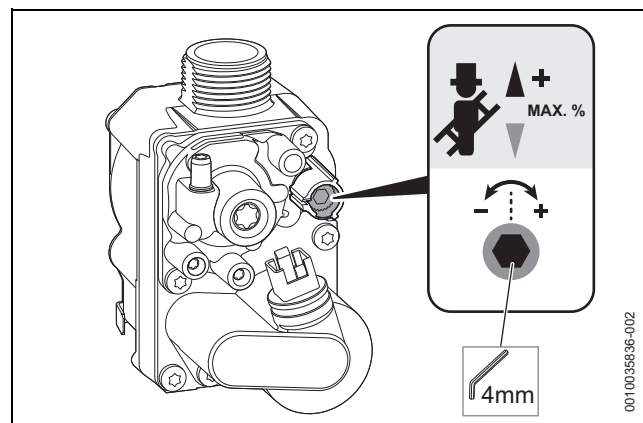

Fig. 88 Setting the CO₂ content
- Insert the hex tool into the adjusting screw of the gas valve (as shown in the below Figure 88) and set the CO₂ content for maximum rated output.